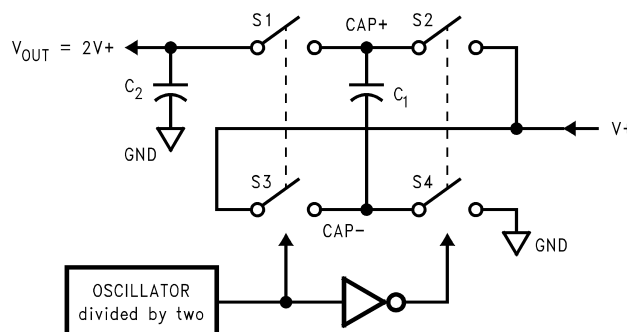

Figure 9-2. Voltage Doubling Principle
The LM2767 contains four large CMOS switches which are switched in a sequence to double the input supply voltage. Energy transfer and storage are provided by external capacitors. Figure 9-2 illustrates the voltage conversion scheme. When S_2 and S_4 are closed, C_1 charges to the supply voltage $V+$. During this time interval, switches S_1 and S_3 are open. In the next time interval, S_2 and S_4 are open; at the same time, S_1 and S_3 are closed, the sum of the input voltage $V+$ and the voltage across C_1 gives the $2V+$ output voltage when there is no load. The output voltage drop when a load is added is determined by the parasitic resistance ($R_{ds(on)}$ of the MOSFET switches and the ESR of the capacitors) and the charge transfer loss between capacitors. Details are discussed in Section 9.
- R_{SW} is the sum of the ON resistance of the internal MOSFET switches shown in Figure 9-2.